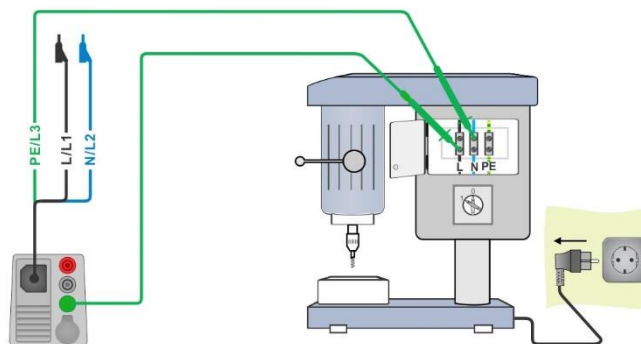

Figure 7.126: Discharging time measurement
- ▶ Connect 3-wire test lead to the instrument and on the DUT, see **Figure 7.126**.
- ▶ Connect DUT to the mains supply and Switch it ON, see **Figure 7.126**.